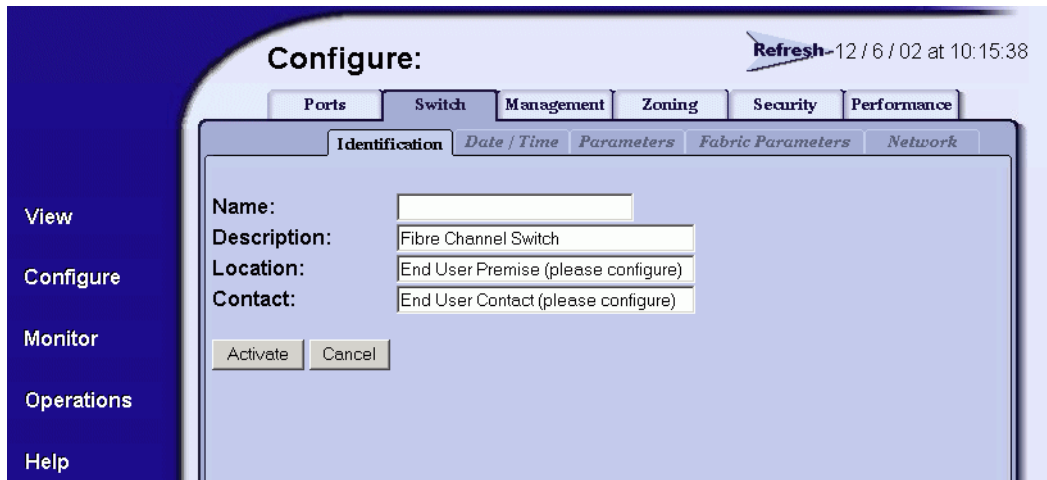

Figure 2-9 Configure Panel (Switch Page with Identification Tab)
1. At the *Configure* panel, click the *Switch* tab. The *Switch* page displays with the *Identification* tab selected (Figure 2-9 on page 2-18).